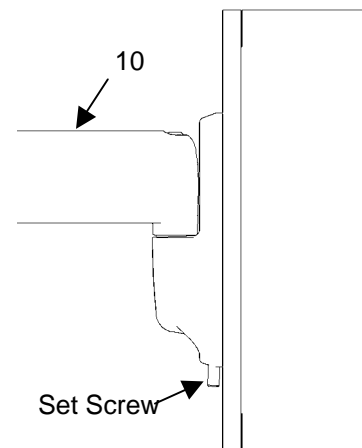

Figure 6. Tighten Set Screw
2. Using 5/32" hex wrench (160), secure mount to wall bracket by tightening set screw (see Figure 6). Ensure set screw engages *back* side of bracket to properly secure mount.